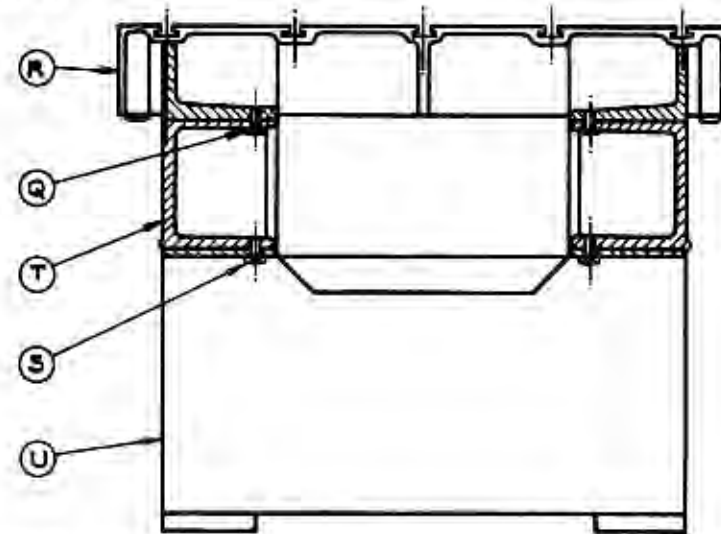

FIG. 18. SECTION THROUGH FIXED TABLE WITH PACKING STRIPS.
1. Unscrew the four hexagon head screws 'Q', Fig. 18.